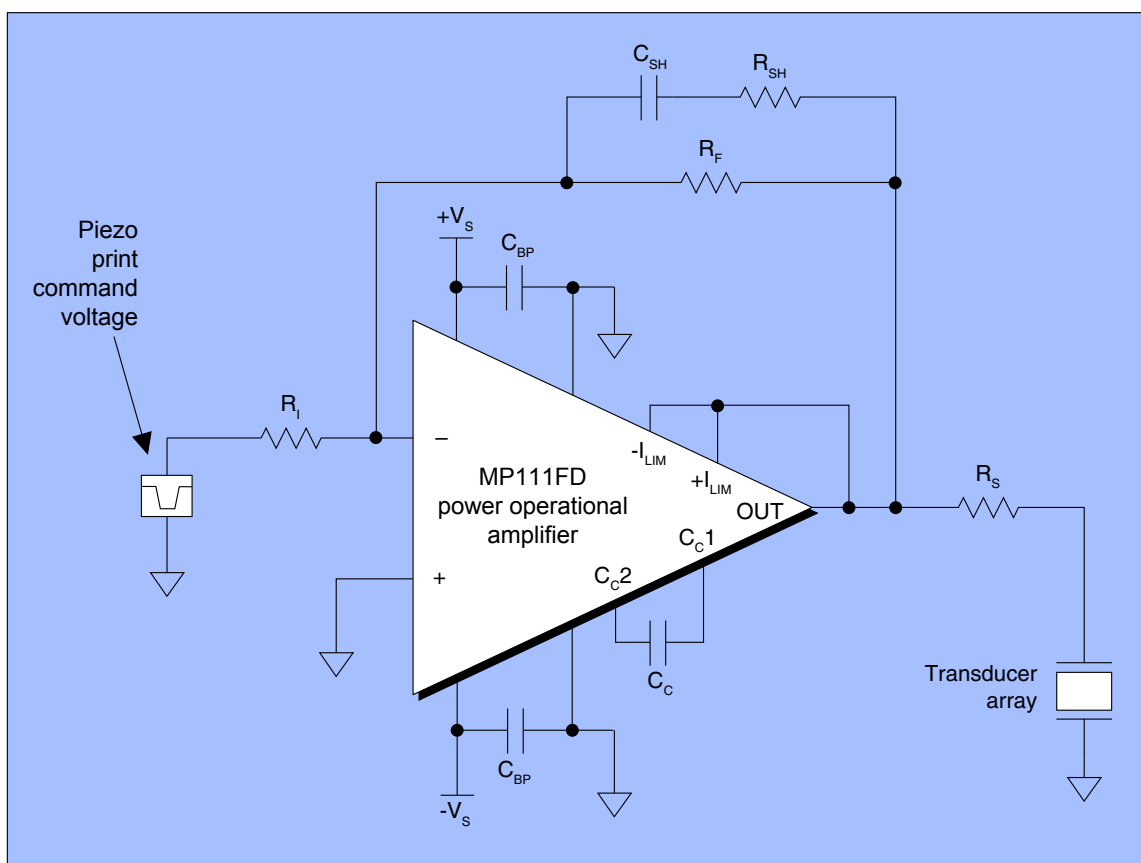

Figure 10. A simplified diagram using a power amplifier and companion passive components.
- Determining design parameters - The Apex Microtechnology MP111FD power operational amplifier is particularly well suited for driving piezoelectric transducer arrays. It is a 100 volt device with a 500 KHz power bandwidth and a 50 amp pulse capability. Shown in Figure 10 is a simplified drawing of the MP111FD power operational amplifier in an inkjet transducer application with the companion passive components identified.
- Enhancing dynamic response – This is achieved by connecting a series network comprising a 10pf capacitor C_{SH} and a 1kilohm R_{SH} in shunt with resistor R_f , as shown in Figure 10. This will improve the dynamic response of the power amplifier. Adjust these values slightly to optimize the response.